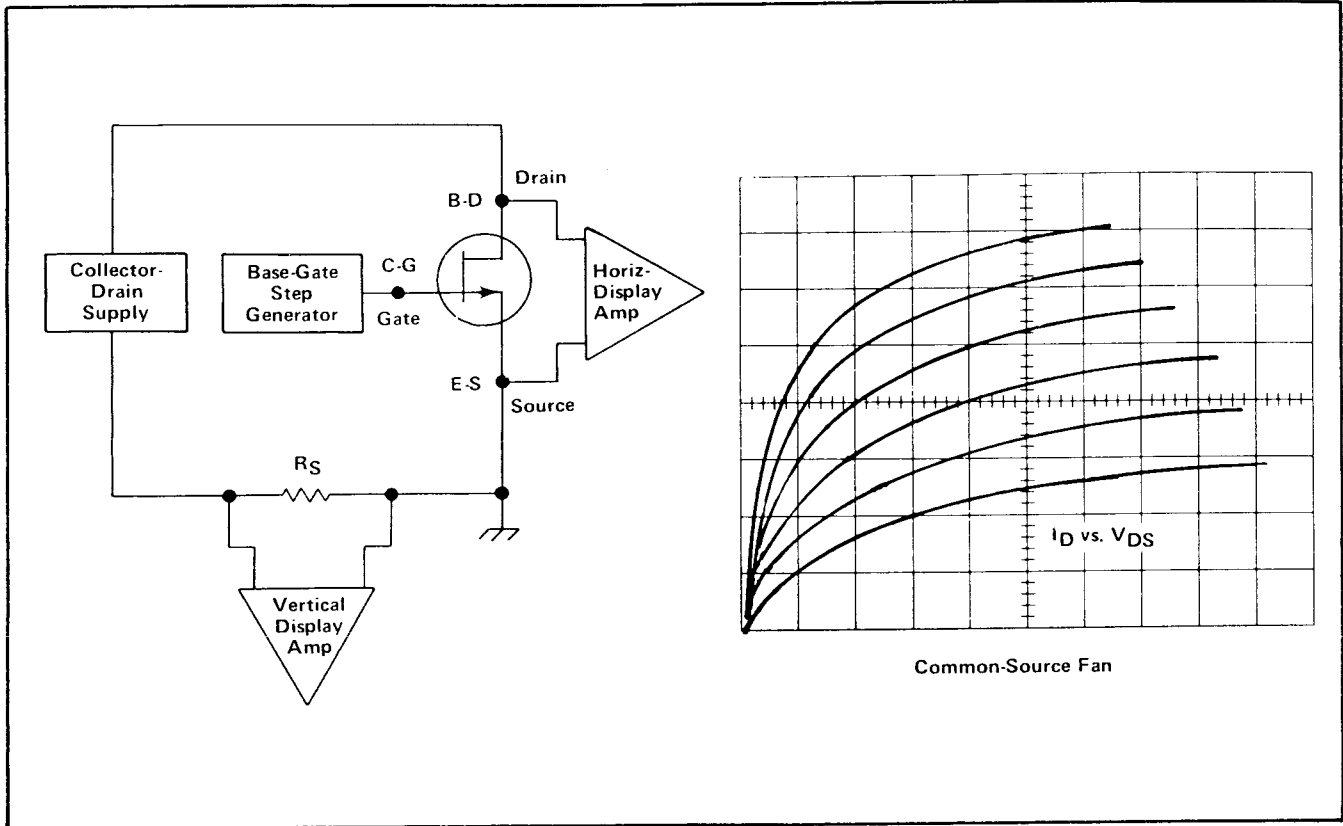

Fig. 1-5. Simplified diagram showing the connection of an FET to the 7CT1N and a typical display.
**Installation.** Connect the FET to the device testing jacks through the transistor-FET adapter which is included with the 7CT1N. This adapter is wired to accept devices with gate-drain-source configurations. If the adapter can not be conveniently used, connect the leads directly to the device testing jacks as shown in Fig. 1-5.
Go, No-Go Turn the COLLECTOR/DRAIN VOLTS control clockwise to obtain a horizontal trace of about 5 divisions. Turn the STEP AMPL switch clockwise until a display similar to that shown in Fig. 1-5 is obtained.